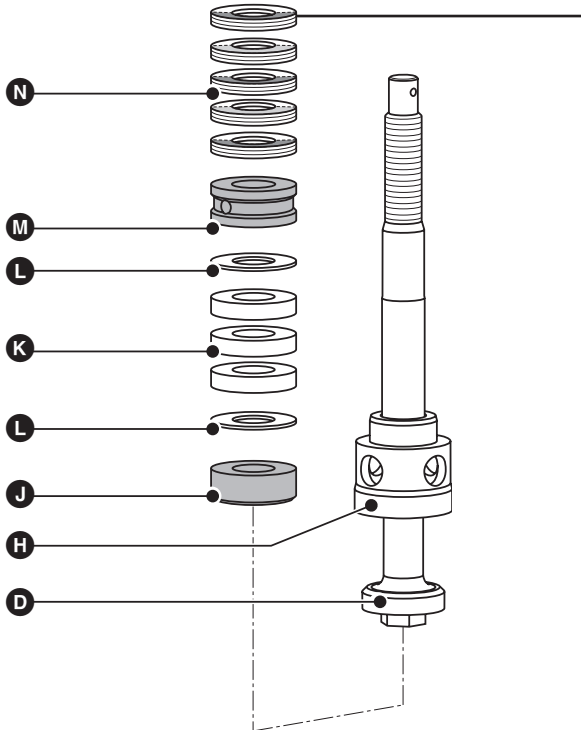
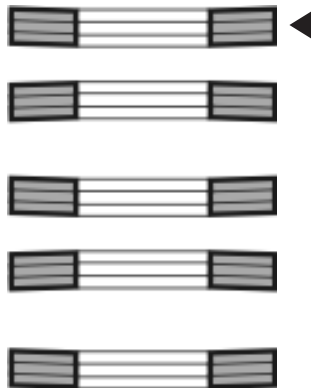

Fig. 5
Fig. 6
16. Re-insert internal parts of stuffing box according to order as specified on page 24. **Fig. 5, Fig. 6**
19. Re-insert internal parts of stuffing box according to order as specified on page 24. **Fig. 5, Fig. 6**